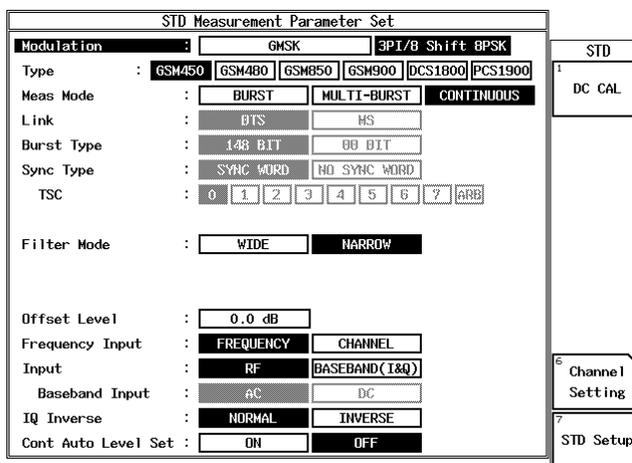

Figure 6-4 Setting of STD Parameter for Modulation Accuracy Measurement (EDGE)
3. On the R3267 Series, set the measurement parameter as shown in Figure 6-4.